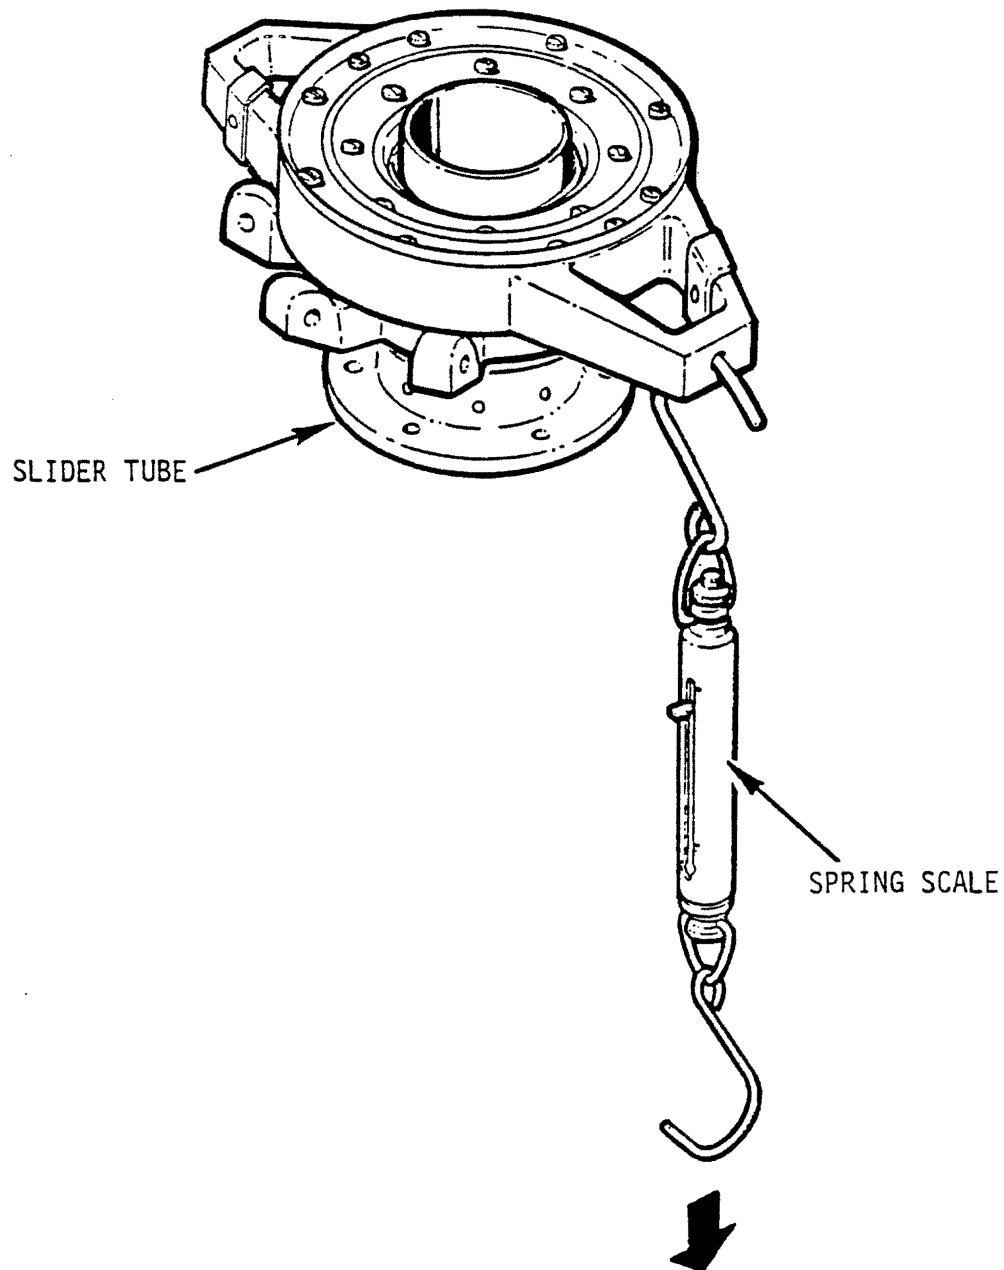

FIGURE 8-12 MEASURING SWASHPLATE TILTING FORCE
2. Align upper swashplate arms with lateral axis of helicopter and center cyclic stick. Using MT359-1 spring scale (or equivalent) connected to upper swashplate arm bolt hole per Figure 8-12, pull down and note scale reading while swashplate is moving; do not use breakaway reading. Force required to tilt swashplate must be free-without-looseness minimum to 5 pounds maximum.